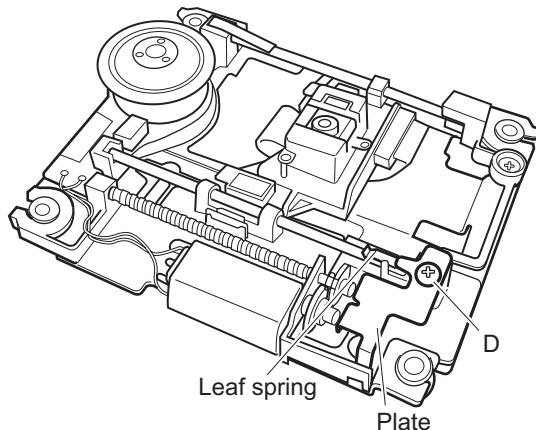
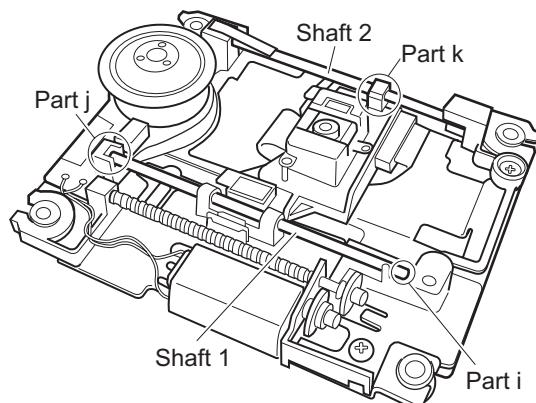

Fig.12
Fig.13
3.3.1 Removing the pickup (See Figure 12, Figure 13)